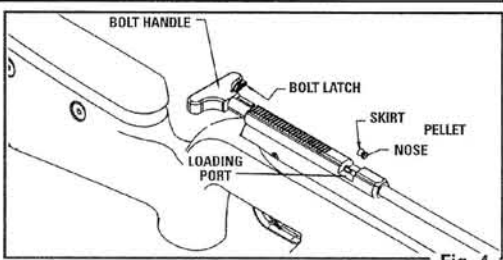

Fig. 4
- Place one pellet, nose first, into the loading port (breech) (Fig. 4). This is a single shot pellet rifle. Load no more than one pellet at a time.